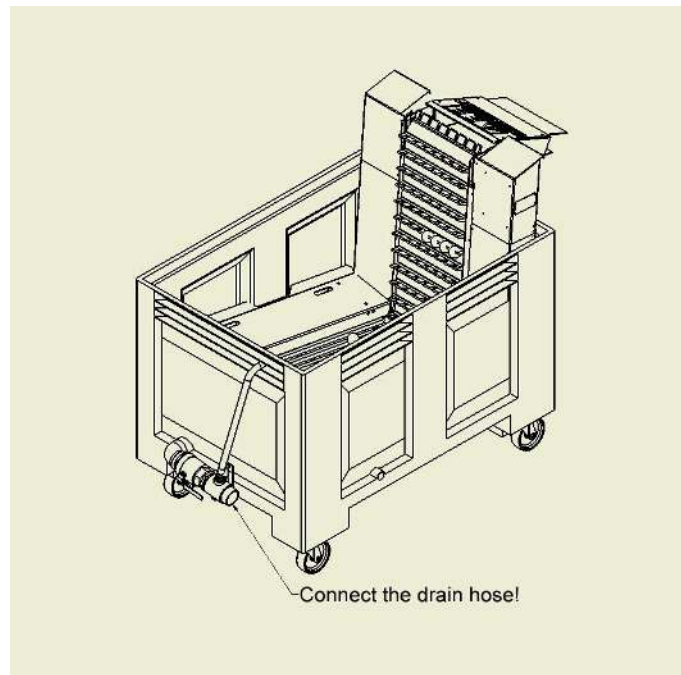

Figure 3: Connect drain hose.
- II. Connect one end of the flexible drain hose to the ball valve and place the other end in a drain. See Figure 3: Connect drain hose.